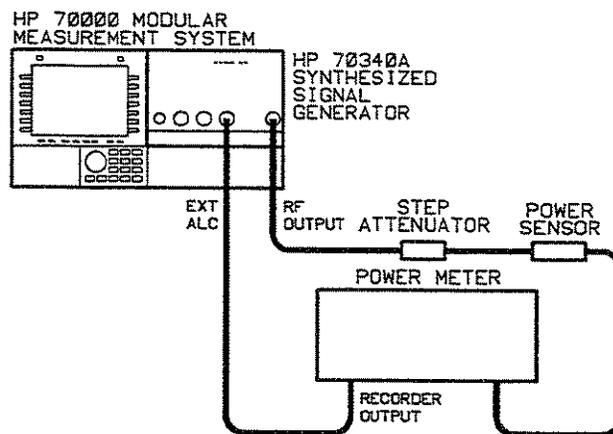

Figure 1-2. External Leveling Test Setup
1. Connect the equipment as shown in the Figure 1-2.